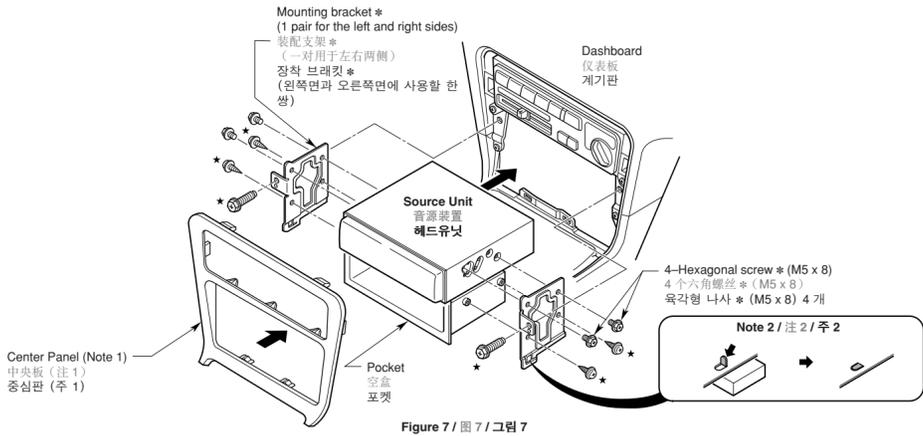

Figure 7 / 图 7 / 그림 7
If the vehicle is equipped with a factory-installed radio, install the source unit with the parts and screws marked (*) (Figure 7).
如果汽车装备有出厂时安装好的收音机，请用带星号(*)的零件和螺丝安装音源装置。（图 7）
- Secure the mounting brackets to the chassis as shown in Figure 7. Holes are pre-tapped for TOYOTA and NISSAN vehicles; modification, such as drilling new holes, of the mounting brackets may be required for other models.
- 如图 7 所示，将装配支架固定在底盘上。丰田和日产汽车已预先钻好孔，其他车型可能需要改造装配支架，如钻新孔等。